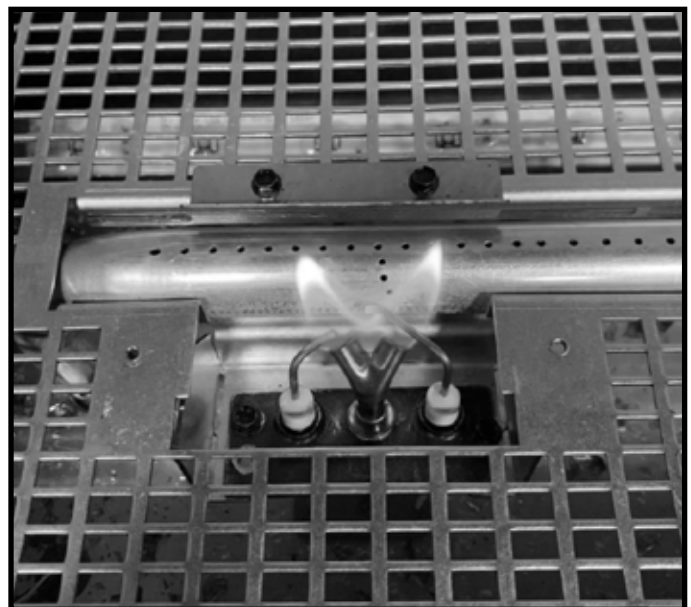

Figure 4.18 IPI Pilot Flame Patterns
- Inspect pilot flame pattern and strength. See Figure 4.18 for proper pilot flame pattern. Clean or replace orifice spud as necessary.